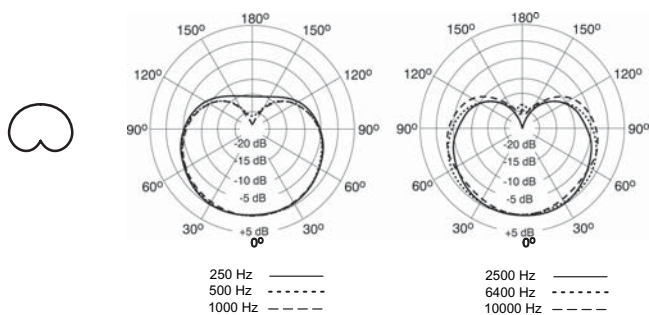

FIGURE 4. CARDIOIDE POLAR PATTERNS
**Cardioid.** When this pattern is selected, the microphone picks up sounds directly in front of the microphone and is least sensitive to those in back. This is the most commonly used pattern in studio recording and live-sound applications. See Figure 4.
**Omnidirectional.** Picks up sounds from all directions. This pattern is best for picking up room ambience and for miking several sources, such as an ensemble or multiple singers, simultaneously. The omnidirectional polar pattern exhibits no proximity effect. See Figure 4.
Directional Polar Pattern	Cardioid/Omnidirectional (see Figures 4 and 6)